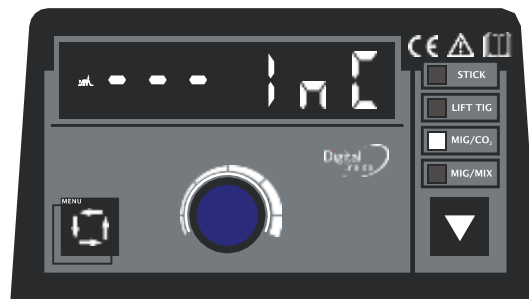

Fig. 7: Wire inching display under MIG mode
- e) Press the switch of MIG gun. It starts wire inching. And the 【Main display】 shows as Fig. 7. When connected with MIG gun, press the torch switch for 5s without welding, the internal wire spool in the machine starts to rotate and wire feeding at a high speed 11m/min for 20s.. Then it stops automatically. When release the button in 20s, wire feeding stops automatically.